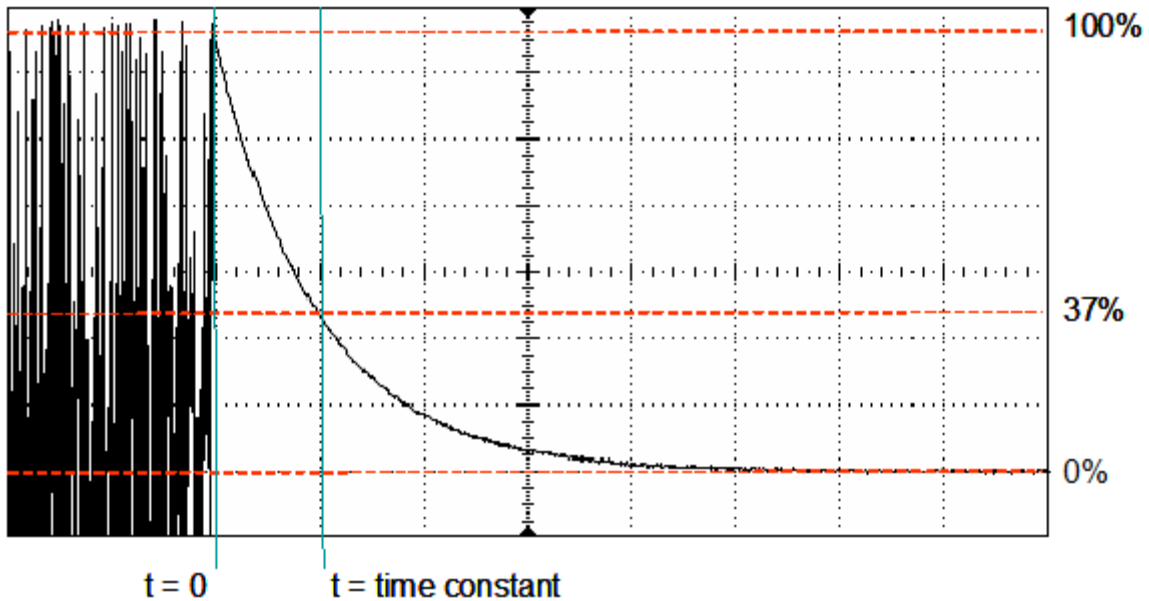

Figure 4a
Measurement of the time constant is done with an oscilloscope connected to the mains input terminals of the equipment under test (EUT). Mains is applied to the EUT, the EUT is turned off, and then the mains is disconnected from the EUT. (The EUT is turned off because the load circuits of the EUT may serve to discharge the EUT capacitance.) The resulting oscilloscope waveform, the ac mains voltage followed by the discharge of the total capacitance, is shown in Figures 4a and 4b.
- 3) When the display is about 1 or 2 divisions from the start, turn the test switch off, and measure the time constant as shown in Figures 4a and 4b. This step may need to be repeated several times to get a